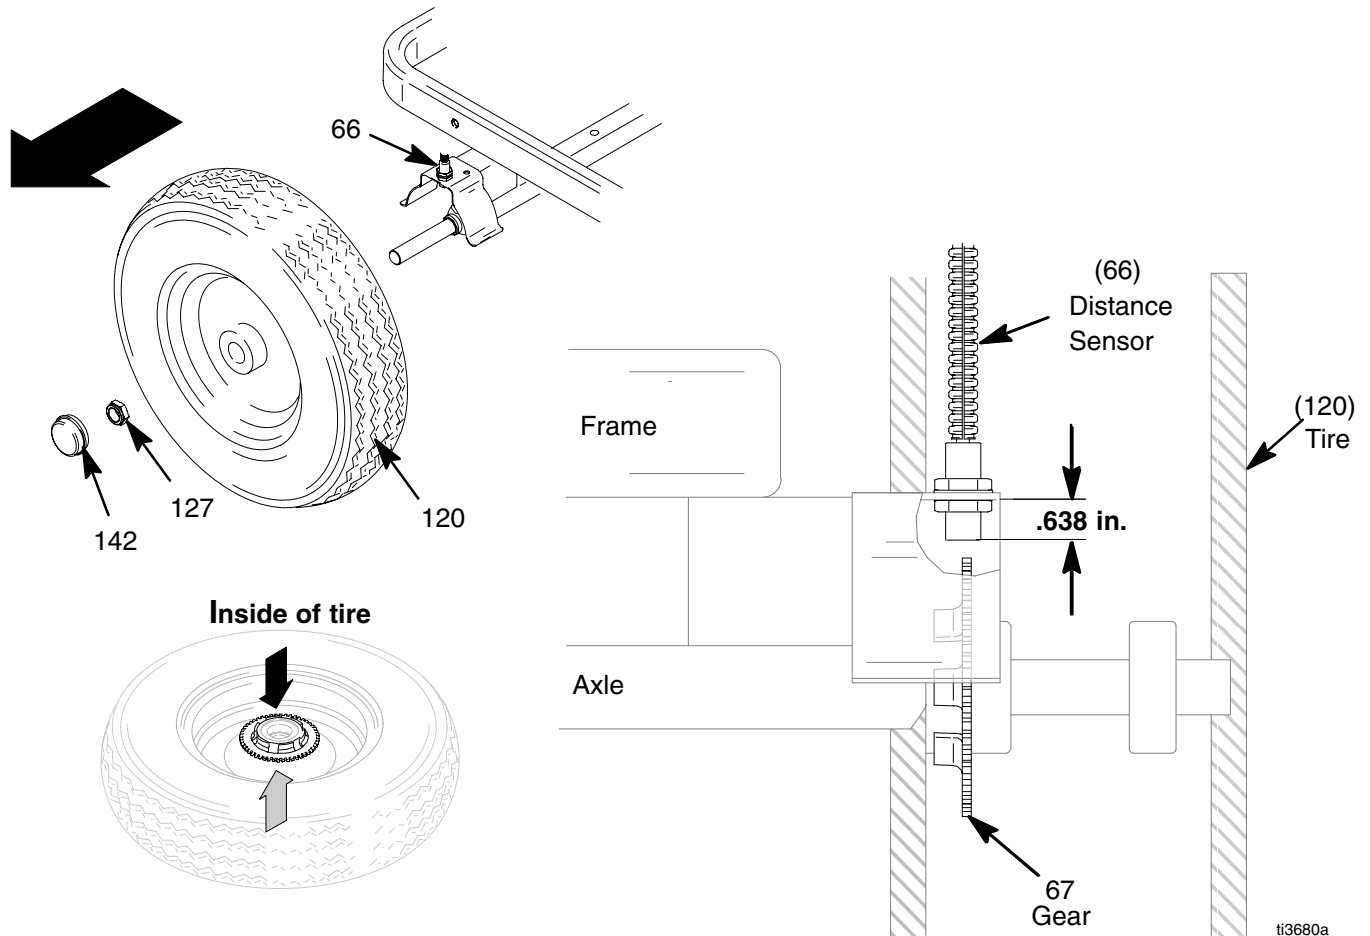

Fig. 3
2. Fig. 3. Remove dust cap (142) from wheel. Remove nut (127).
3. Remove wheel (120) from LineLazer.
4. Align gear (67) with sensor.
5. Install wheel (120) on LineLazer.
6. Install nut (127) until tight, then back off 1/4 turn. Install dust cap (142) on wheel.